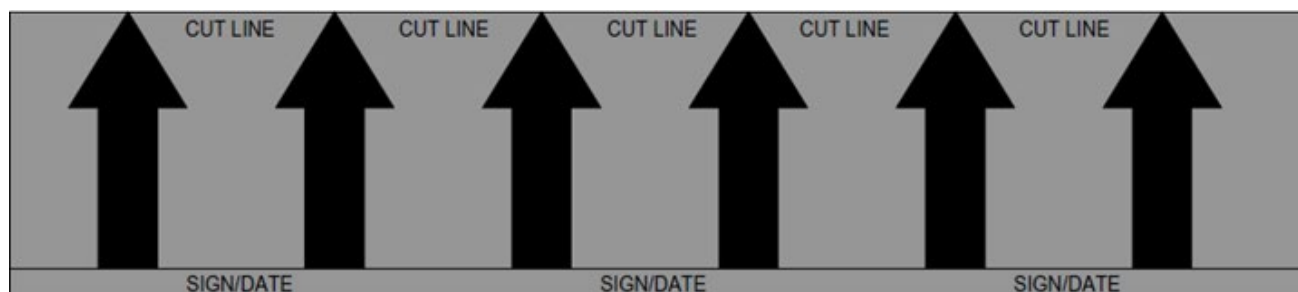

Figure 1: Cut Line Tape
2. In the immediate vicinity of the marked cut point, the Contractor Crew Representative will install cut line tape as shown in *Figure 1* with arrows pointed towards the marked cut point. Cut line tape will be installed during the permit to work period when cutting will occur.